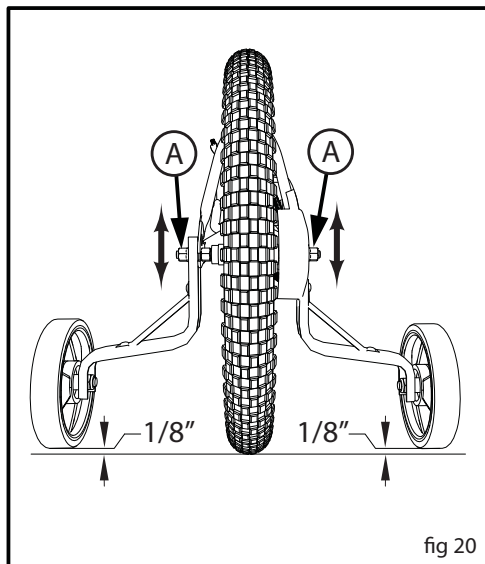

fig 20
3. Make sure both Training Wheels are the same distance from the ground (fig 20) and pointing straight down.
4. Tighten Axle Nuts (A) securely.
WARNING: Before each ride, make sure both axle nuts are tight. Also make sure both training wheels are the same distance from the ground (fig 20).